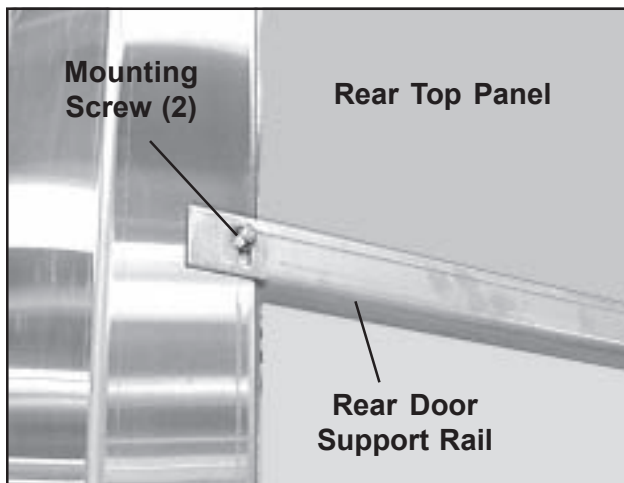

Figure 74. Rear Door Support Rail
2. With a 1/2 in. wrench, remove the two mounting screws, and remove the old support rail from the cubicle (Figure 74).